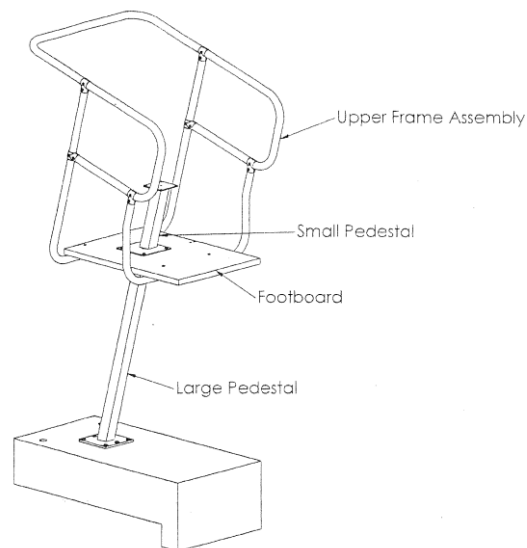

Figure 5
Step 4: Place the upper frame assembly on the large pedestal. Attach the small pedestal through the footboard and the top plate on the large pedestal using four 3/8"x2 1/2" hex head bolts, flat washers, and 3/8" nylock nuts as shown in figure 5.